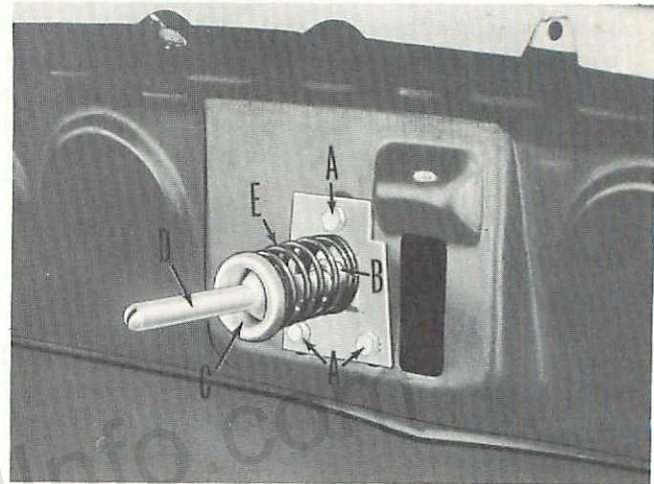

Figure 9—Hood Upper Lock Assembly
**REMOVAL and DISASSEMBLY**—To remove the hood upper lock assembly, remove the attaching screws (A, Fig. 9). To disassemble the unit, lift the spring (E)